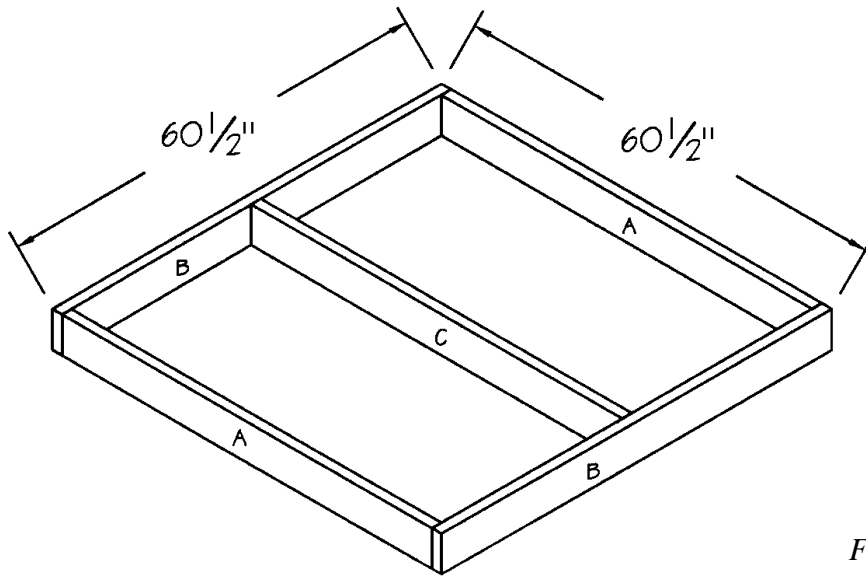

Figure 1
1. Cut two Back/Fronts (A) from 2 x 6 treated pine, each measuring 57-1/2 inches.
2. Cut two Sides (B) from 2 x 6 treated pine, each measuring 60-1/2 inches.
3. Place the two Back/Fronts (A) on a level surface, parallel to each other and 57-1/2 inches apart.
4. Place one Side (B) over the ends of the two Back/Fronts (A), as shown in *Figure 1*. Screw through the ends of the Side (B) into the Back/Fronts (A) using two 3-1/2" wood screws on each joint.
5. Cut one Center support (C) from 2 x 6 pine, measuring 57-1/2" long.
6. Place the Center Support (C) between the two Front/Backs (A), centered between the Sides (B) inside the bottom frame, as shown in *Figure 1*. Screw through the two Front/Backs (A) into the ends of the Center Support (C), using three 3-1/2" wood screws on each joint.